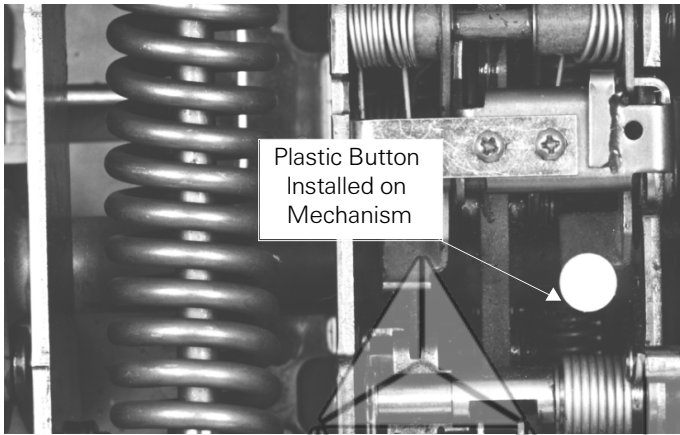

Figure 3. Plastic button installed on the breaker mechanism.
4. Slide the slot on the white plastic button, supplied in the Hidden On Button kit, over the tab on the lever that closes the breaker, as shown in Figure 3. Push the button to the limit of the lever's travel to ensure a tight fit.